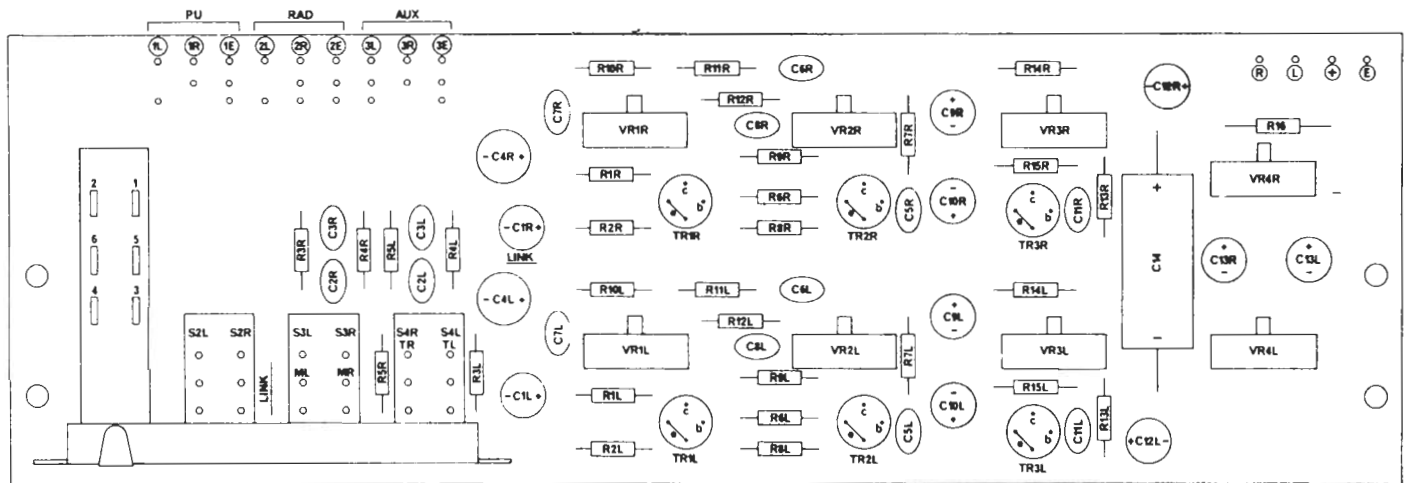

Fig.3.3
2.6.5. Mains Wiring. A 2 pole on/off switch is provided on the Stereo 60, its connections numbered as in fig. 3.3.
Power is fed between ⊕ and ⊖ shown in fig. 3.3.
Outputs are taken between (L) and (E) and between (R) and (E) shown in fig. 3.3.
Mono switching can be accomplished by shorting together points MR and ML on the aux. switch, shown in fig. 3.3. If these points are shorted any signal fed into either Ⓐ or Ⓑ input will be amplified by both channels.
A signal of approximately 120 mV, unaffected by tone and volume controls can be taken from points TR (or TL) on the pickup switch (see fig. 3.3) and earth to feed to a tape recorder. This signal is not suitable for feeding direct to a tapehead.